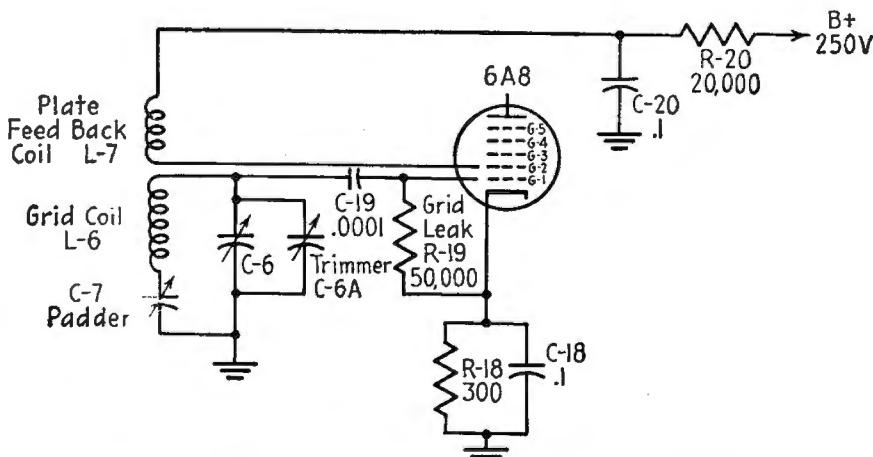

FIG. 14-2.—Oscillator circuit in the 6A8 pentagrid converter.
2. It generates an unmodulated RF signal of its own at a frequency different from the received signal. The cathode and grids G-1 and G-2 act as a triode oscillator. This can be more easily seen by re-drawing the oscillator stage of the converter, as shown in Fig. 14-2. Grid G-1 acts as the oscillator grid while grid G-2 acts as the oscillator plate or anode. Coil L-6 and its associated condenser C-6 are located in the oscillator grid circuit and make up the tuning section for the oscillator. Condenser C-6 is the oscillator section of the gang tuning condenser. Feedback from the plate circuit is obtained by coupling between L-6 and L-7, the latter coil being in the oscillator anode circuit. The feedback is in proper phase and of sufficient